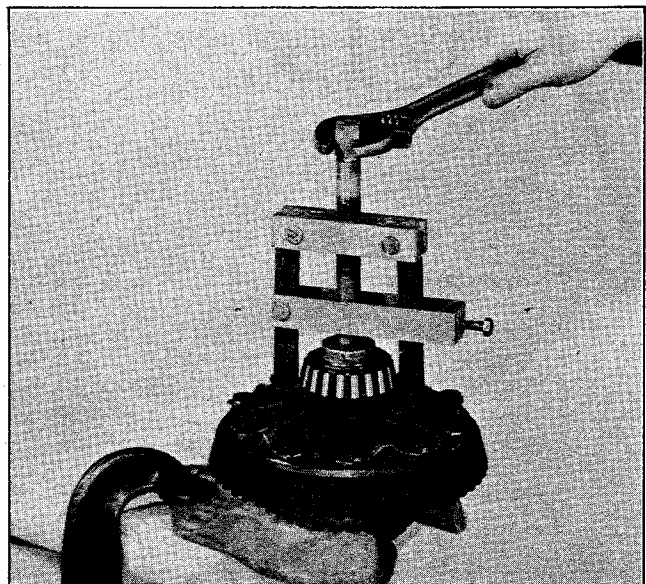

Figure 2-7. Bearing Cone Removal
8. Remove differential bearing cones (8). Care must be taken to insure that bearing puller is located in cast recesses of differential case so as not to pull on bearing cage. See Figure 2-7.